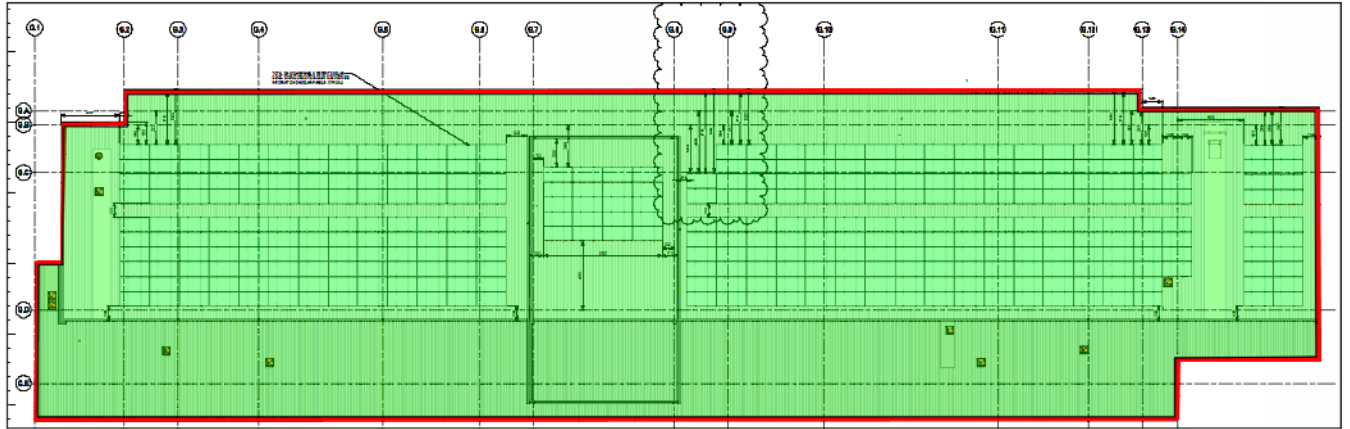

Figure 2. Panel layout (Provided by the client) and roof zone definition
- Refer to figure 2 to find proposed panel layout.
- Proposed panel layout given by the client as per Figure 2. As long as the panel layout conforms with the exclusion zone and roof zone definition, the certification will be valid.